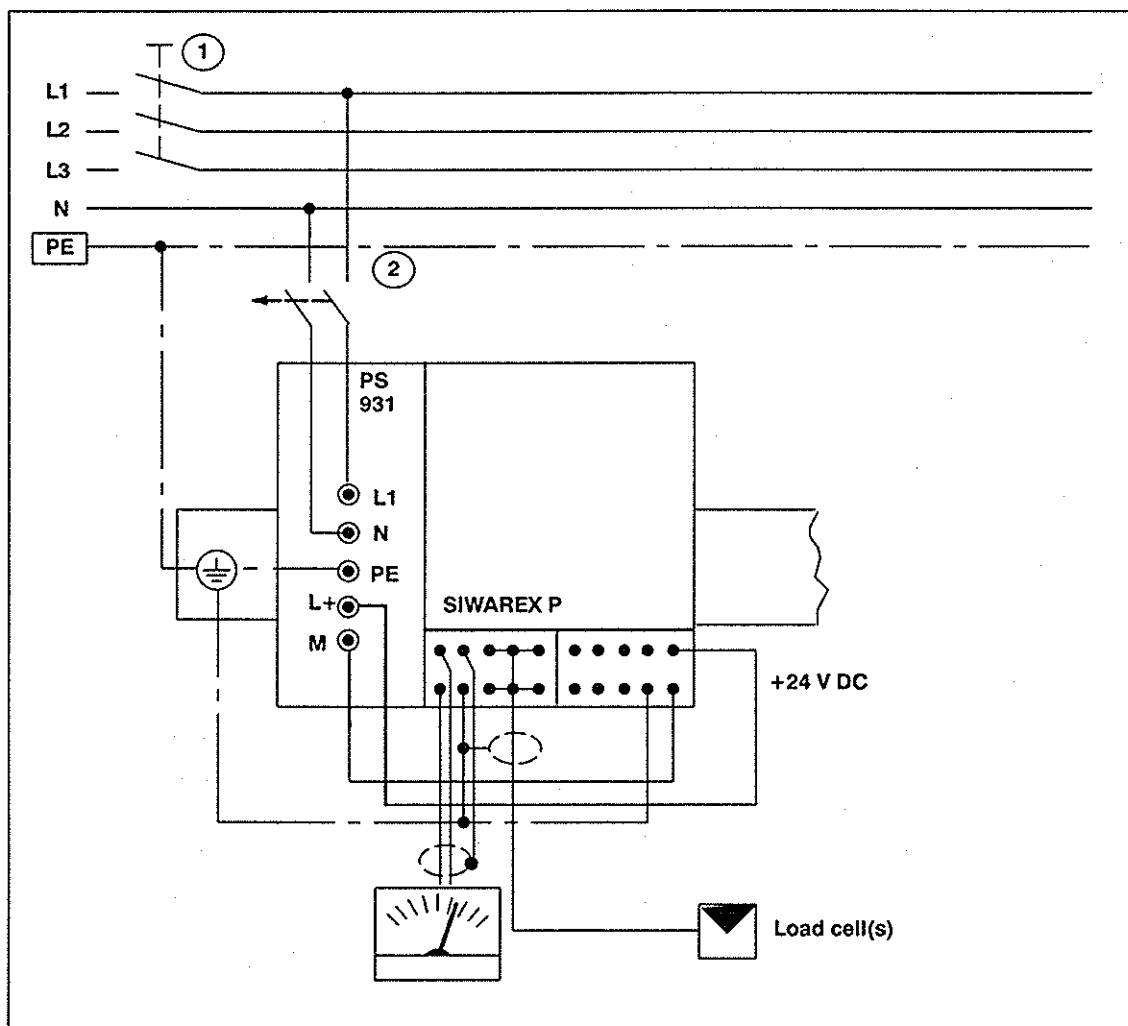

Figure 1.6 SIWAREX P as a stand-alone device (standard model)
- a) A main switch (see ① of figure 1.6) must be provided in accordance with VDE 0100 regulations for the load electronics (and, if present, for the programmable controller consisting of CPU and periphery).
- b) If the stub lines are not longer than 3 m and grounded and short circuit proof, the power connection for the weighing electronics and/or the programmable controller does not require additional safety measures (see ② of figure 1.6).